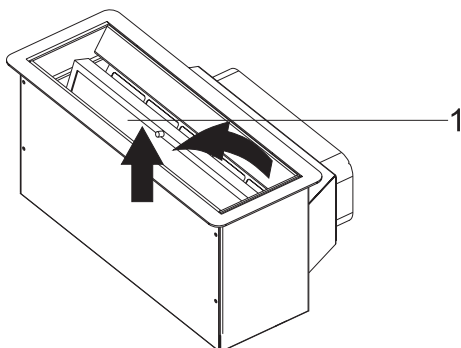

Fig. 12: Removing the metal grease filter
3. Pull the metal grease filter forwards and take it out (Fig. 12).